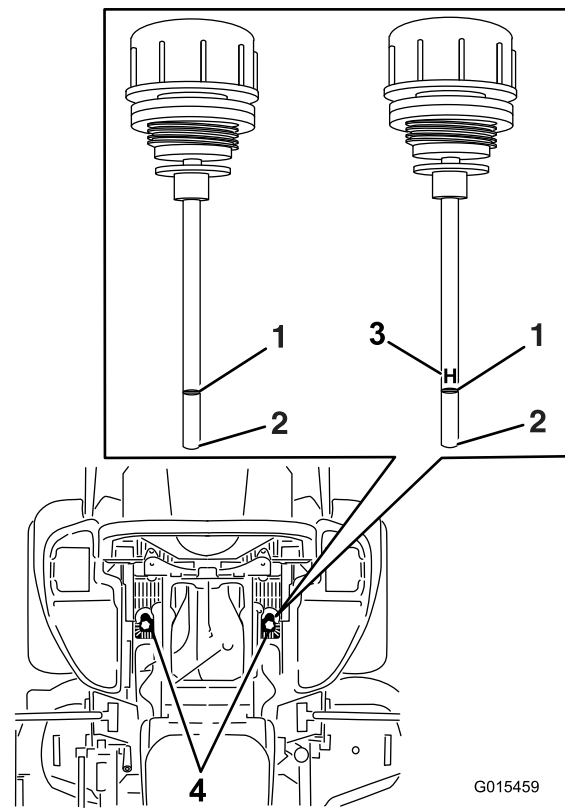

Figure 89
6. Clean the area around the dipsticks of hydraulic system reservoirs (Figure 89).
7. Remove one dipstick from the hydraulic reservoir (Figure 89).
9. Remove the dipstick and look at the end (Figure 89). If the oil level is at the add mark, slowly pour only enough oil into the hydraulic reservoir to raise the level to the full or **H** line.